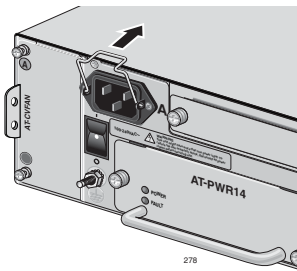

Figure 7. Power Cord Retaining Clip in the Up Position
2. Position the power cord retaining clip in the up position, as shown in Figure 7.